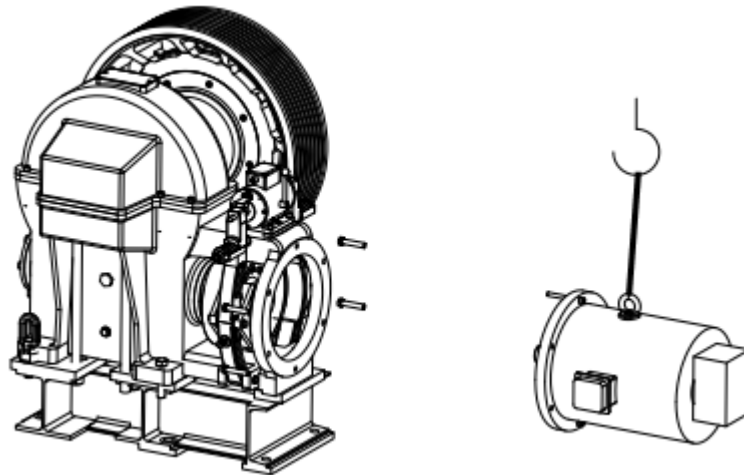

Figure 16 Motor Replacement
4. Install a hoist and rigging over the motor, and hoist the motor until pressure is applied to the rigging. See Figure 16.
5. Remove the Bolts (6) M16x60 and washers.